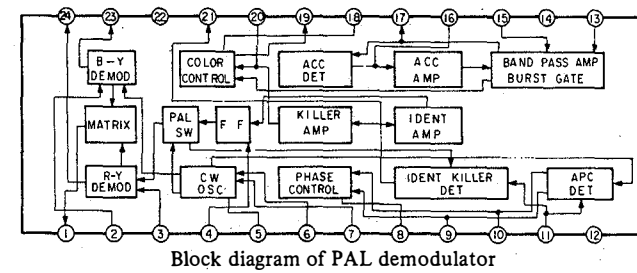

Figure 1
Block diagram of IC used for PAL demodulator is shown in Figure 1. This IC is designed for use of NTSC demodulator. When chrominance signal is fed to pin ② and pin ③, color burst signal to pin ⑪ and Burst Gate Pulse (B.G.P.) to pin ⑬, R-Y and B-Y color difference signals are obtained at output terminals pin ⑬ and pin ⑭. The demodulation axes of this demodulator are R-Y axis and B-Y axis. Variable capacitor CV1 is adjusted so that the phase angles between them are 90°. Local oscillator (4.43 MHz) is formed by CW oscillator in IC1 connected to the terminal pin ⑤, ⑥, ⑦, ⑧ and external circuit. The variable capacitor CV2 is adjusted so that the free run frequency may be subcarrier frequency 4.433619 MHz. Also APC (Automatic Phase Control) circuit is formed by APC section in IC1 connected to the terminal pin ⑨ and ⑩ local oscillator is controlled by APC circuit. The color difference signals demodulated by this IC are fed to low pass filter, where high frequency component is removed, then R-Y and B-Y color difference signals are obtained.